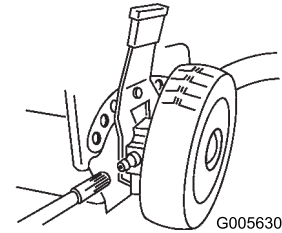

Figure 34
1. Wipe the grease fittings on the rear wheel height adjustment levers with a clean rag (Figure 34).